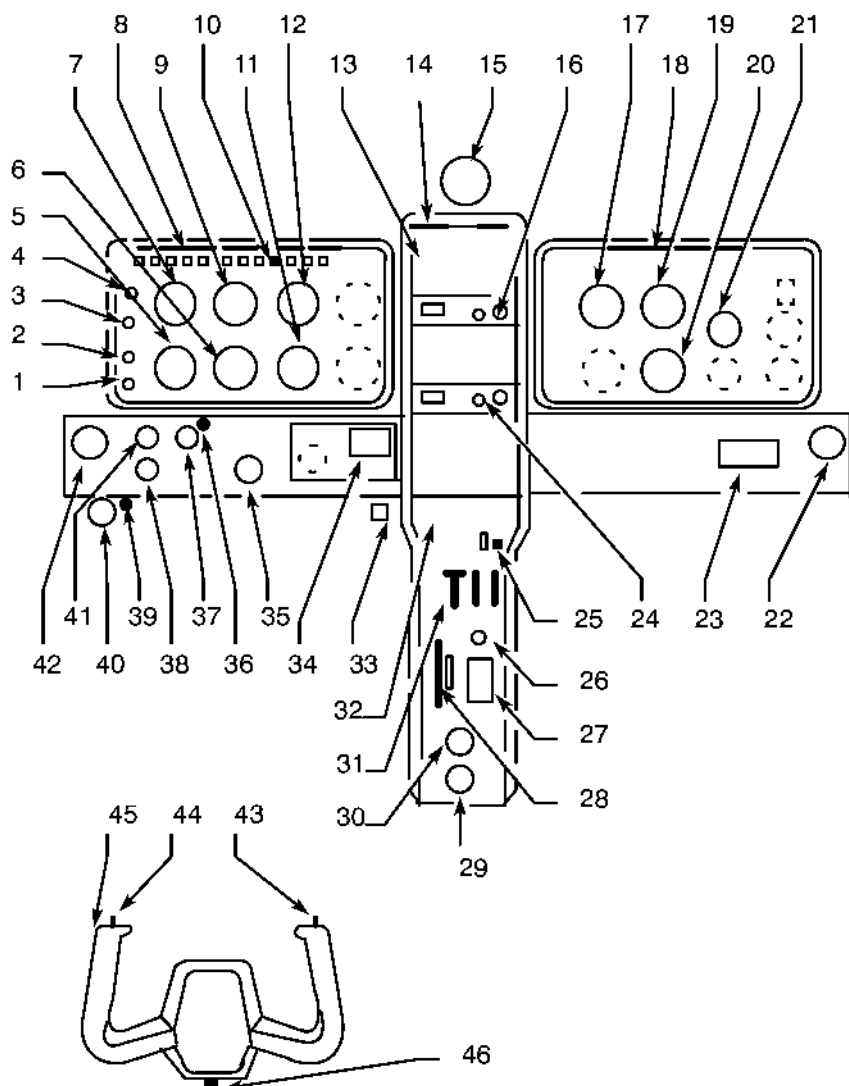

Figure 9.2.3 - EXAMPLE OF INSTRUMENT PANEL " VFR "
- See Figure 9.2.3.
- Front overhead lights controlled by turning post lights and regulated by the "Emergency" control. See Figure 9.2.3.
- Front overhead lights controlled and regulated by the "Emergency" control. See Figure 9.2.3.